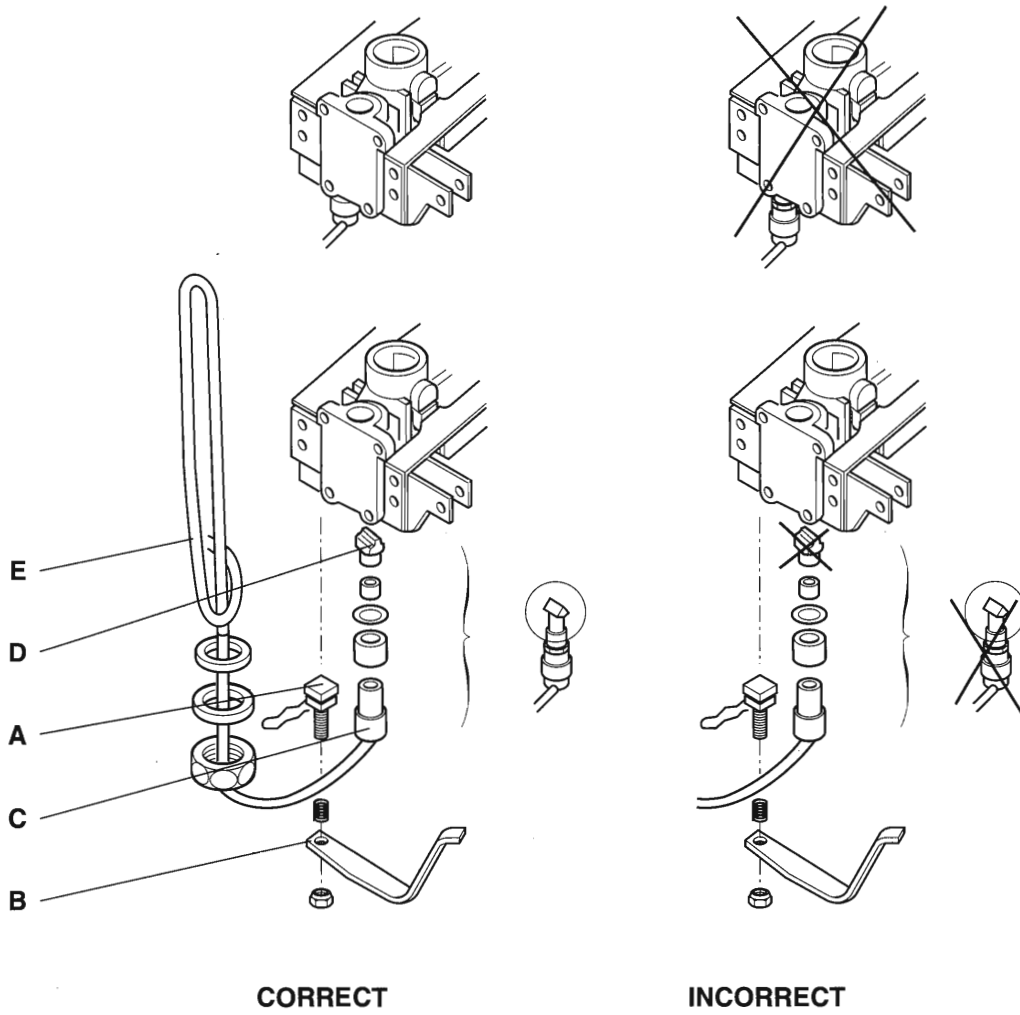

Figure 23
SECTION 13 : TO REPLACE DOMESTIC HOT WATER THERMOSTAT (Figure 23)
- b. It is essential that the modulating knife is replaced onto the thermostat bulb with the knife edge running parallel to the boiler front (See Figure 23).